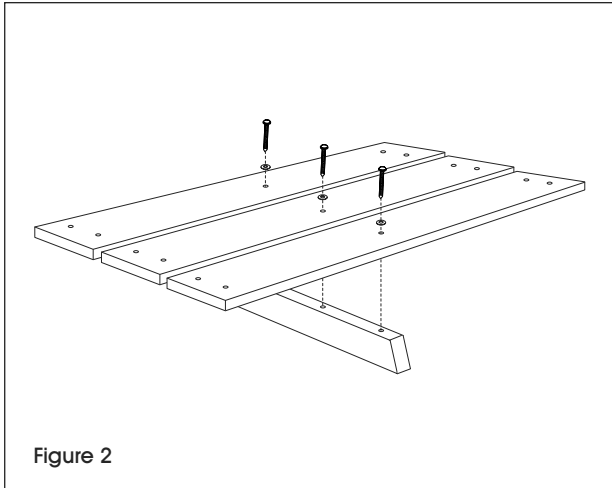

Figure 2
5. Align the middle pre-drilled holes of tabletop boards to the table top support (different angle). Attach 3 1/2" lag screws and washers using the power drill and 7/16" socket bit. (See Figure 2)